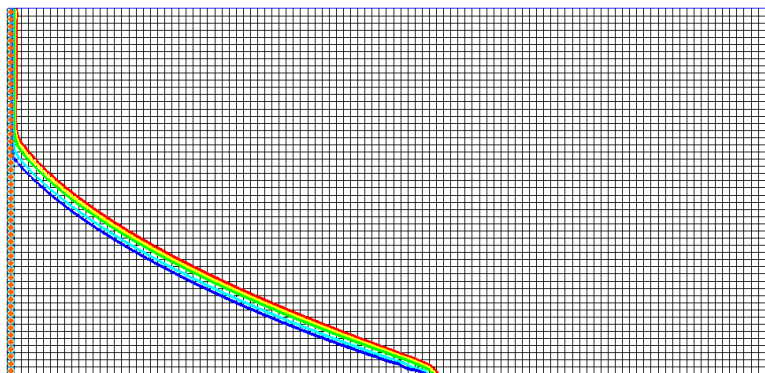

Figure 10 Time step 3 (after 10 minutes)
2. Select time step 3 in the time step window (Figure 10).